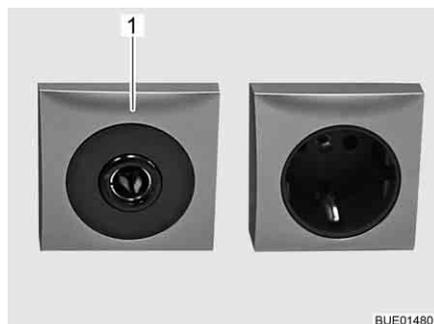

Fig. 152 12 V/10 A socket
- ▷ Only connect devices with a maximum of 10 A to the sockets (Fig. 152,1) of the 12 V power supply.